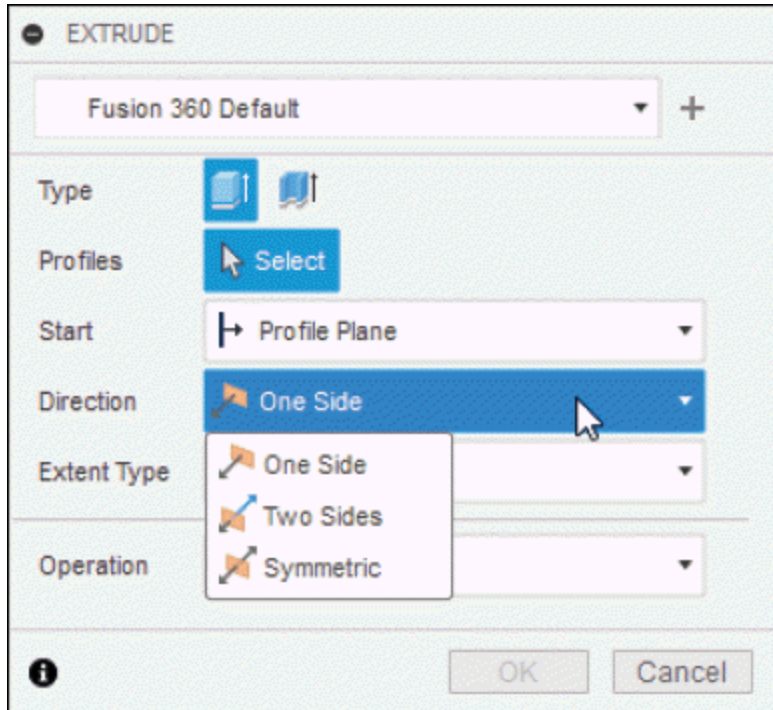

Figure-37. Direction drop down
- There are three tools in **Direction** drop-down of **EXTRUDE** dialog box; refer to Figure-37.